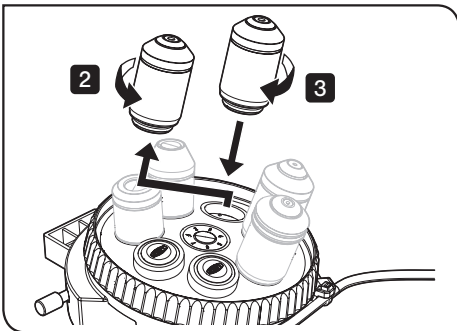

Fig.62
**9 Removing and attaching the objective** (Fig.62)